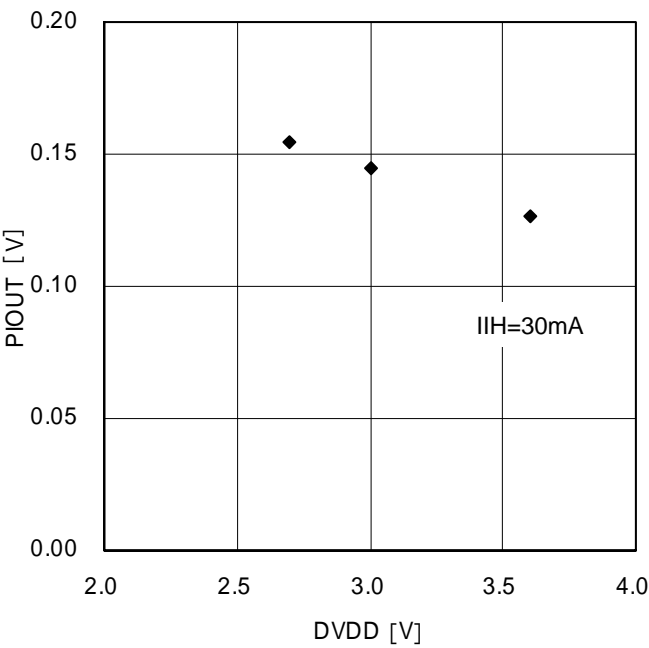

Figure 13. Output Voltage
P.12 Graph Scale is changed. Figure.13